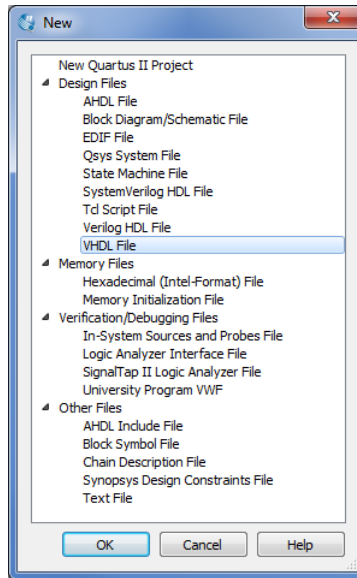

Figure 14: Choose to prepare a VHDL file.
1. Select **File > New** to get the window in Figure 14, choose **VHDL File**, and click **OK**. This opens the Text Editor window.